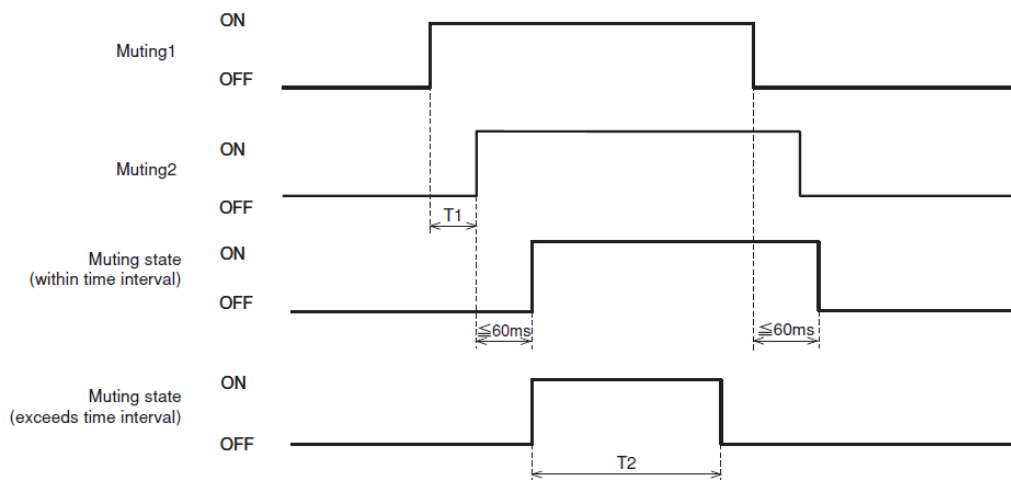

Figure 3-20 Muting sequence
- b) The two independent hard wired muting input signals are switched to ON state in the predefined sequence within the pre-set time interval. However, the switching interval between two input signals should be at least 30ms delay between the signals (Refer to figure 3-20).
- b) When the predefined (preset) maximum muting time  $T_2$  exceeds (1 minute and above) (Figure 3-20).
Figure 3-20 shows the muting sequence.